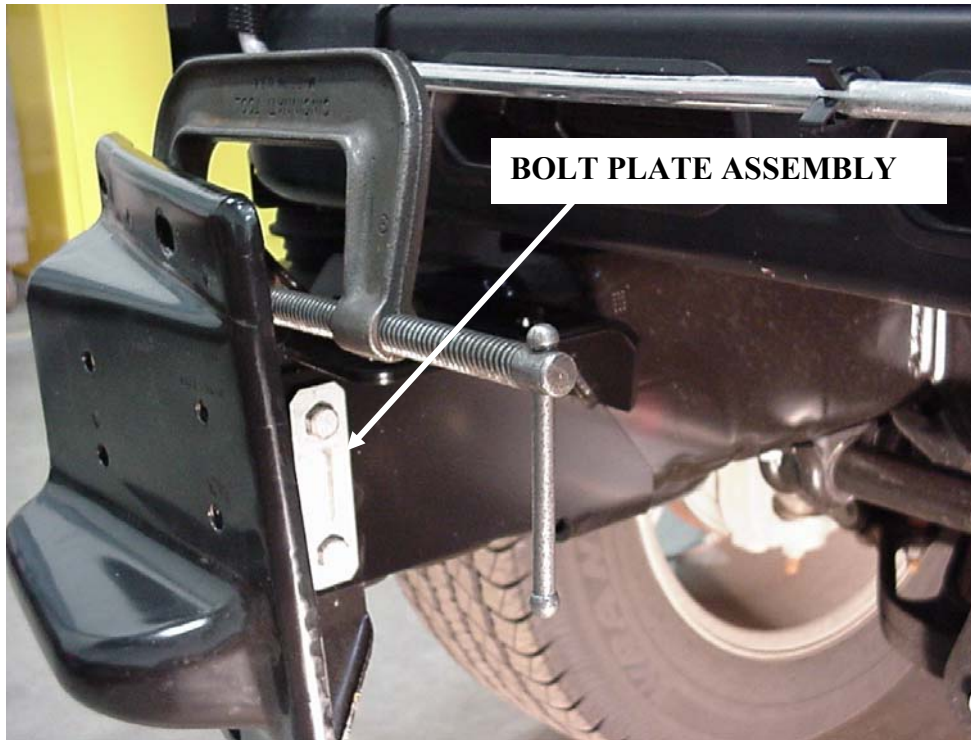

Figure 9
7. Clamp the bumper brackets to the vehicle frame, and remove the bolt plate assembly. **Figure 9**